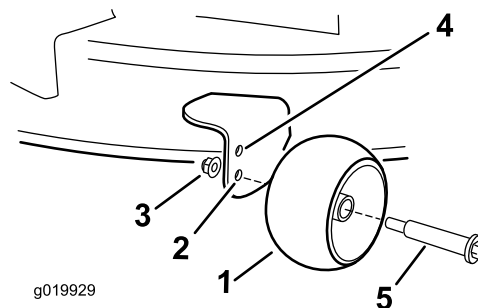

Figure 31
- Upper hole—use this position with the mower deck in the 63 mm (2-1/2 inches) and below the height-of-cut positions (Figure 31).
- Lower hole—use this position with the mower deck in the 76 mm (3 inches) and above the height-of-cut positions (Figure 31).